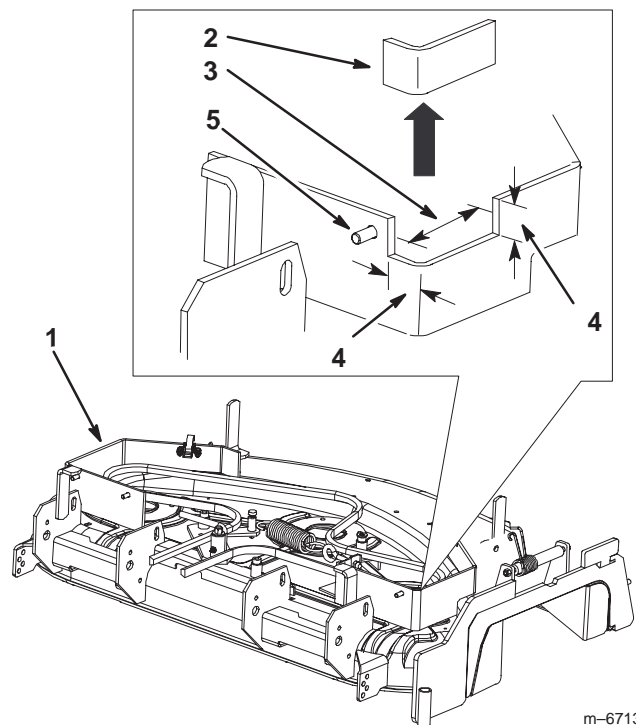

Figure 16
1. Remove the right rear corner of the pulley cover plate (Fig. 16). This will give clearance for the blower belt.
2. Refer to Figure 16 for the correct dimensions of the cutout.